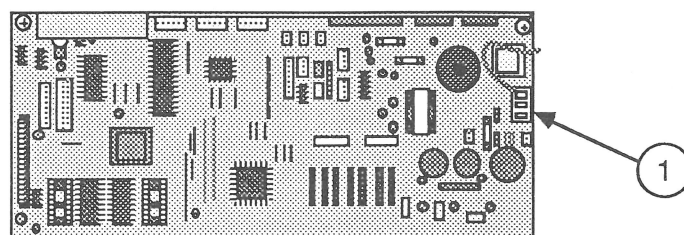

FIGURE 30
2. Disconnect the transformer cable from main board connector CN1 (Figure 30, #1).